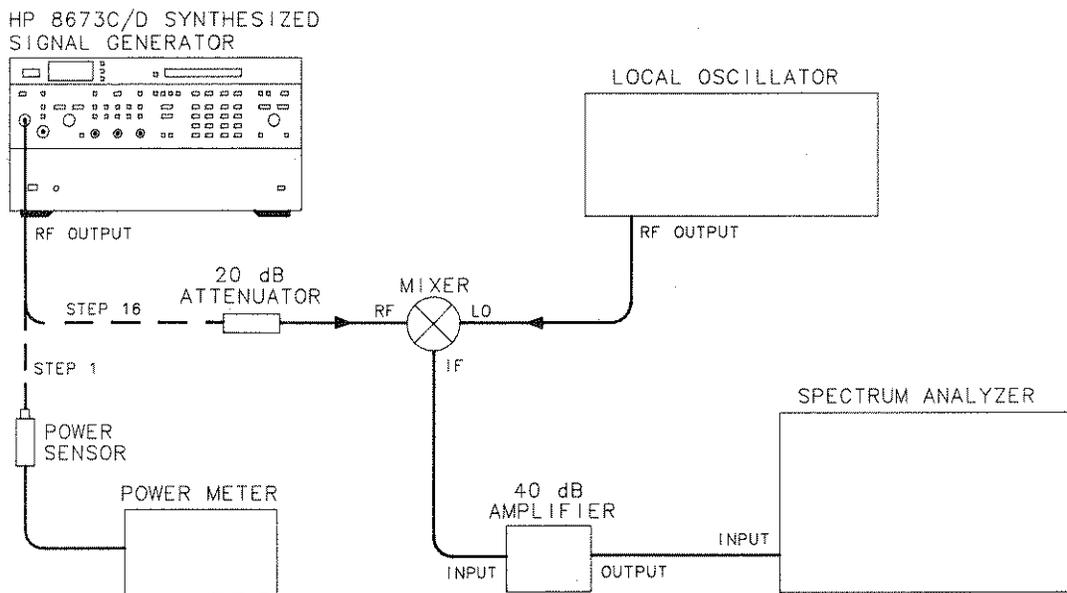

Figure 4-3. Level Accuracy Test Setup
2. Connect the Signal Generator to the power meter as shown in Figure 4-3.
16. Disconnect the power meter and connect the Signal Generator to the attenuator and mixer as shown in Figure 4-3.